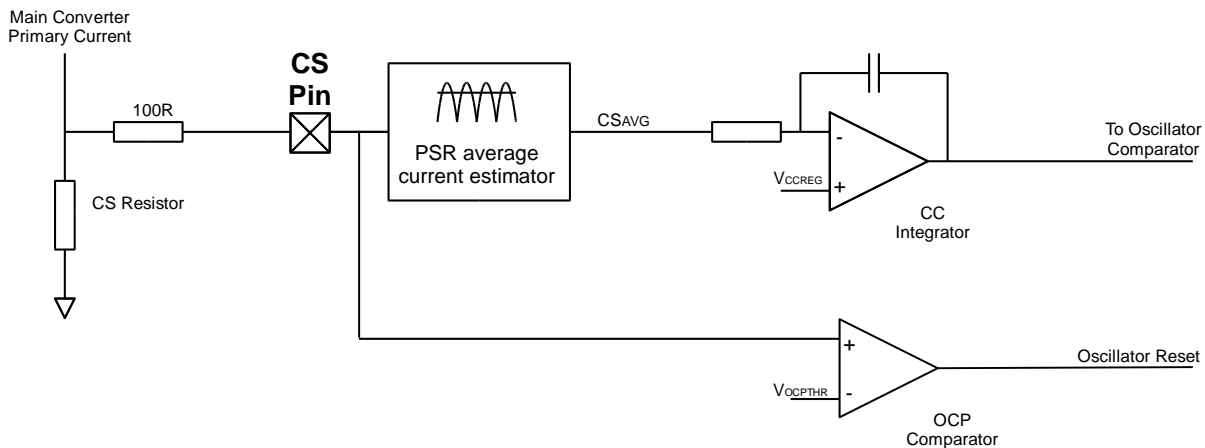

Figure 7: RED2432 Current protection and control circuits
Figure 7 shows the two current control methods used in the converter:
Shown in figure 7 the signal from the CS pin is divided into two different paths. The bottom path provides peak instantaneous over-current protection (OCP) while the PSR Average Current estimation block provides the current regulation (CC) information. The voltage on the CS pin is an AC signal biased around GND. Inside the PSR block this signal is processed to provide a voltage proportional to the average converter output current.
The CC regulation circuit is shown in Figure 7. CC operation is defined by an internally compensated control loop. This provides a system response time of approximately 300us in a typical application. The average current regulation point, V_{CCREG} is pre-set to 150mV, referred to the CS pin.